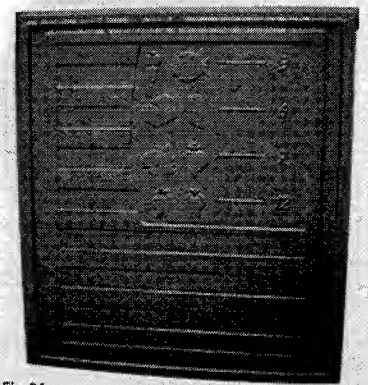

Fig 21
- Refer to the pictorial frozen food storage guide (Fig 21) on the door liner when freezing fresh food.